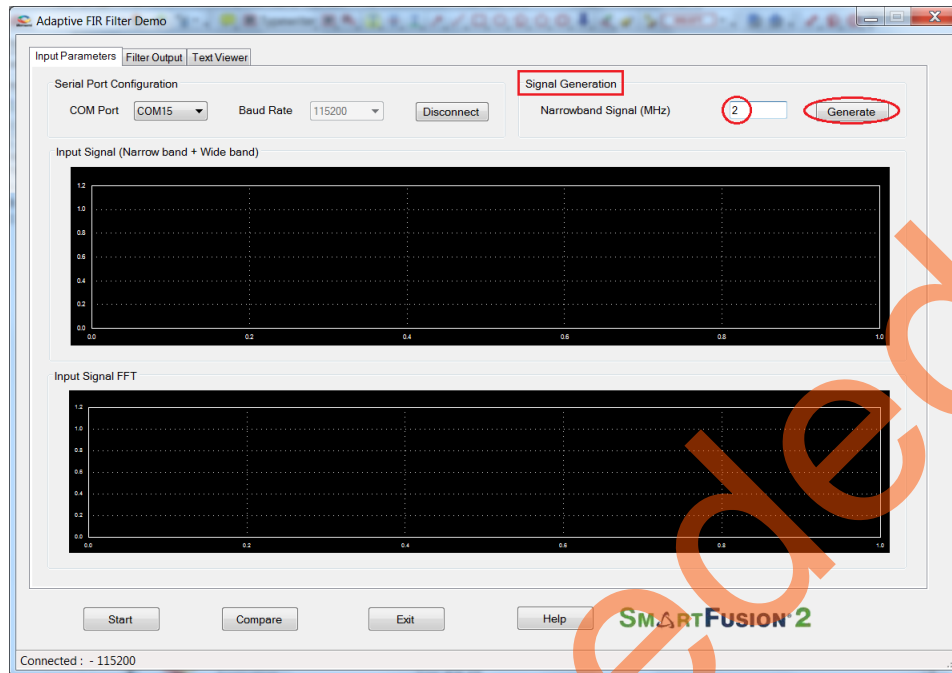

Figure 14 • Signal Generation
3. **Signal Generation:** Enter the narrowband signal frequency as 2 MHz (supported range is 1 MHz to 20 MHz), and click **Generate**. Refer to Figure 14 on page 19.